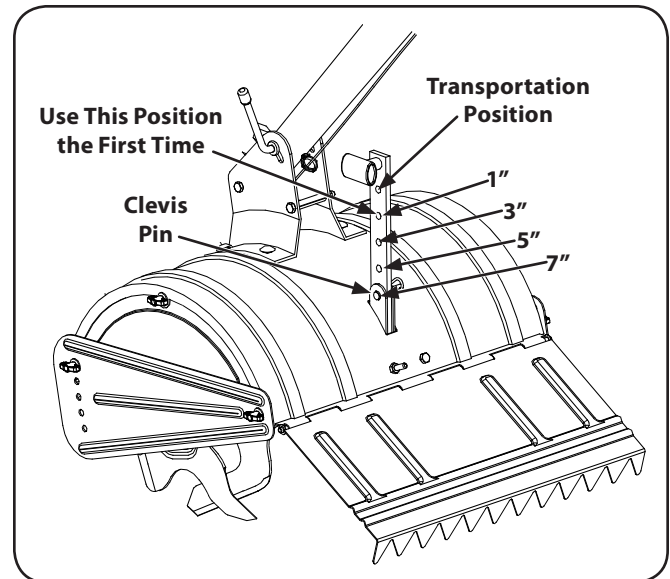

Figure 5-1
1. When using the tiller for the first time, use the second adjustment hole from the top (1" of tilling depth). See Fig. 5-1.
- To adjust the depth stake, remove the clevis pin and hairpin clip. Move the depth stake to the desired setting and secure with the clevis pin and hairpin clip. See Fig. 5-1.